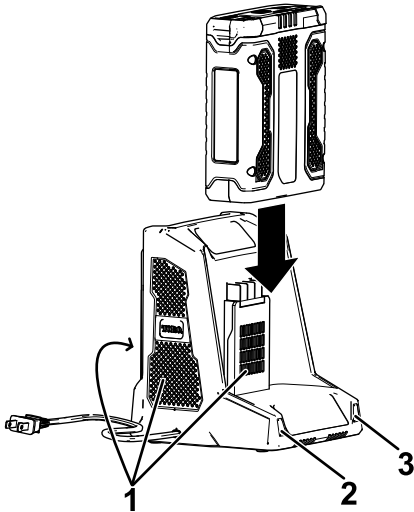

Figure 25
- Slide the battery pack into the charger until it is fully seated (Figure 25).